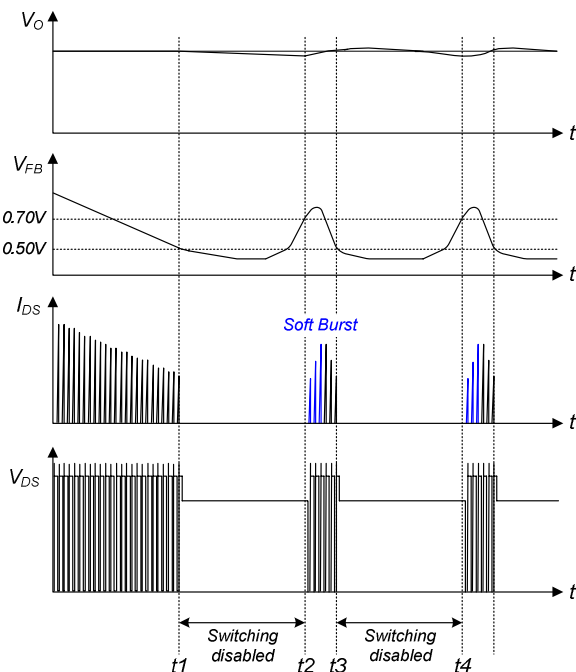

Figure 23. Burst-Mode Operation
**5. Soft Burst-Mode Operation:** To minimize power dissipation in standby mode, the FSGM0565R enters burst-mode operation. As the load decreases, the feedback voltage decreases. As shown in Figure 23, the device automatically enters burst mode when the feedback voltage drops below  $V_{BURL}$  (500mV). At this point, switching stops and the output voltages start to drop at a rate dependent on standby current load. This causes the feedback voltage to rise. Once it passes  $V_{BURH}$  (700mV), switching resumes. At this point, the drain current peak increases gradually. This soft burst-mode can reduce audible noise during burst-mode operation. The feedback voltage then falls and the process repeats. Burst-mode operation alternately enables and disables switching of the SenseFET, thereby reducing switching loss in standby mode.